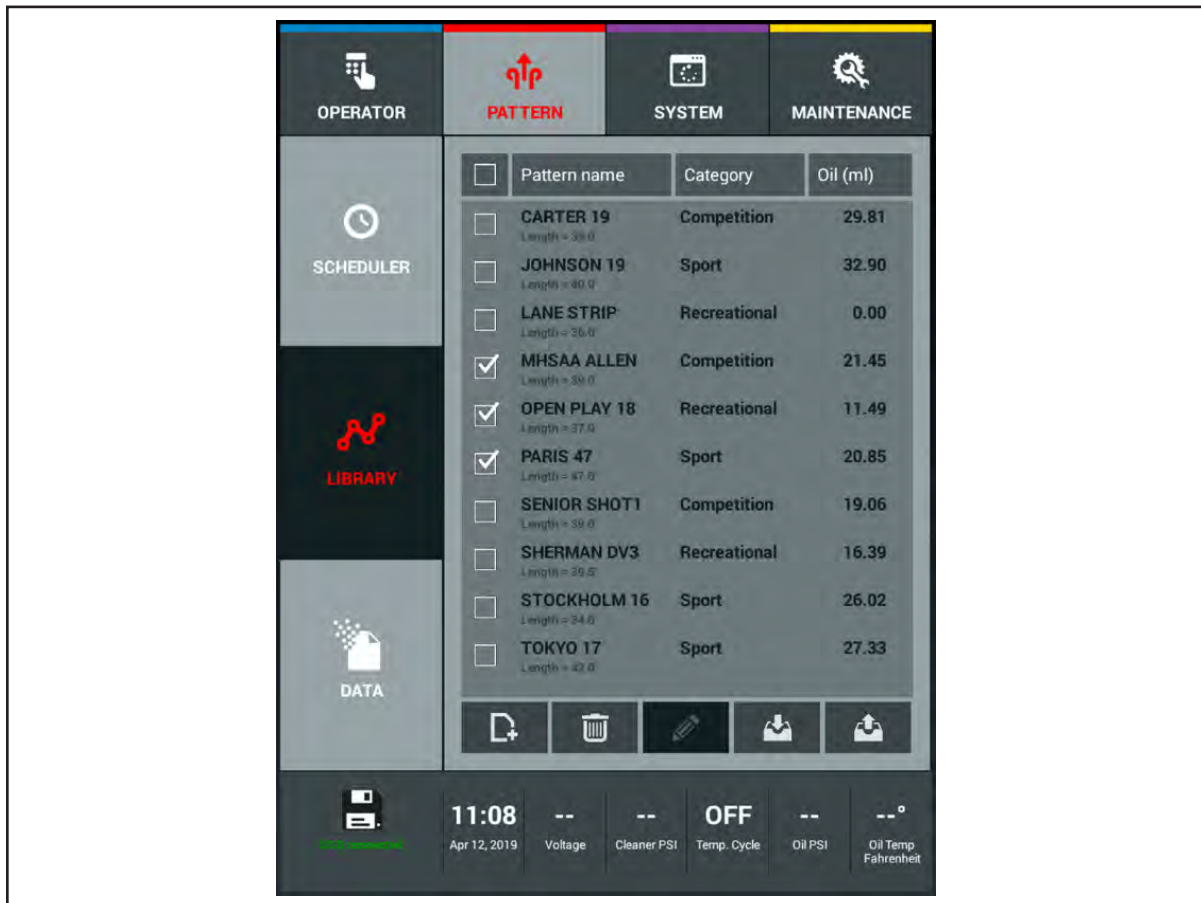

Figure 4-19. Pattern Export Selection
2. Select patterns to Export by touching the check box located to the left of the pattern name and the “Export” icon will highlight. Refer to *Figure 4-19*.